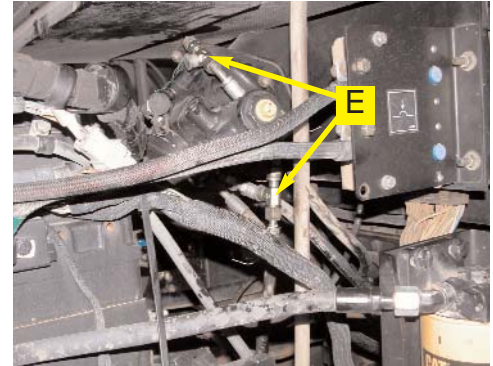

Figure 3b. Installed pressure and tank run tees.
- b. The pressure connection is the hose on the bottom left side of the steering valve. Remove the pressure hose and install the run tee fitting (**E**). The tank connection is the hose located on top of the steering valve. Remove the tank hose and install the run tee fitting (**E**). (Figure 3b.)